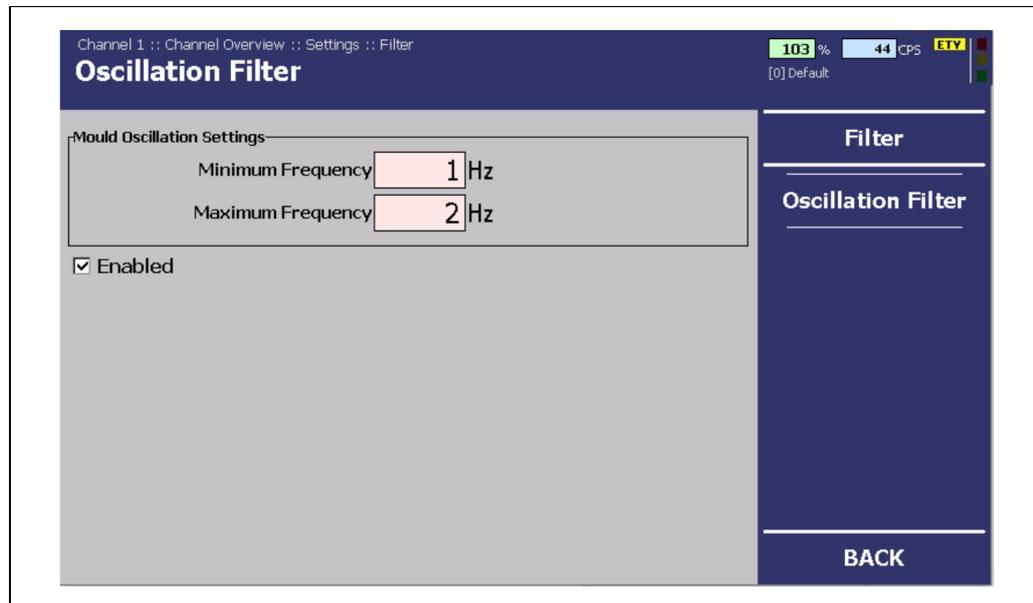

Fig. 63 "Channel Overview" Menu, Oscillation Filter
In the "Select/Display" submenu, you can view the applied calibration, fill level alarms and filter settings. You can also select calibration curves in the drop-down menu (Fig. 63, Item 4) if additional ones have been created.
1. Click on the button drop-down menu (Fig. 63, Item 4).
3. Confirm your entry by clicking on <Use Settings> (Fig. 63, Item 1).